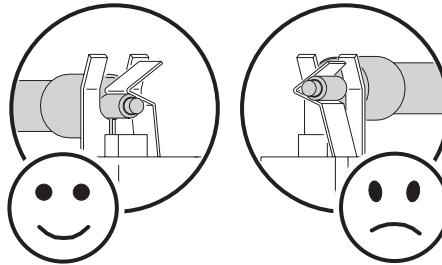

Figure 4: Lamp terminals
5. Make sure that the terminals on the lamp sit below the V-section in the lampholder clips and not in the V-section itself, as shown in Figure 4.